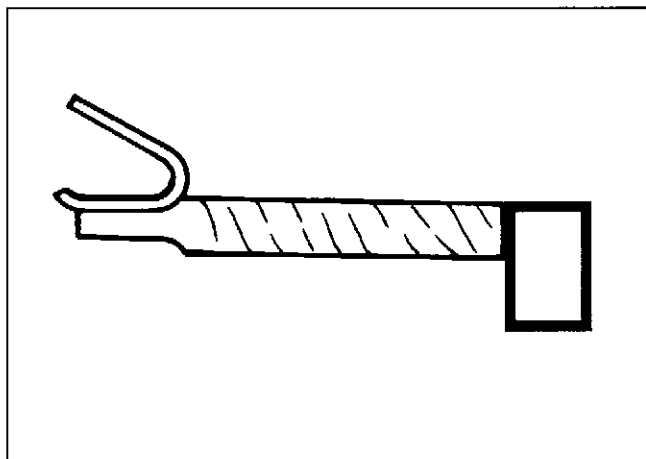

**Figure 8-23. Separating the Rear Stop Collar From the Retainer.**
8. The stop collar consists of two pieces. The rear stop collar is held in place by being snapped over a retainer. The retainer is held in place by a groove in the armature shaft. The front stop collar rests against the rear stop collar. Slide the front stop collar off of the armature shaft. See Figure 8-22. Use a 1/2" or 13 mm deep socket and plastic hammer and tap the rear stop collar down to separate it from the retainer. See Figure 8-23.